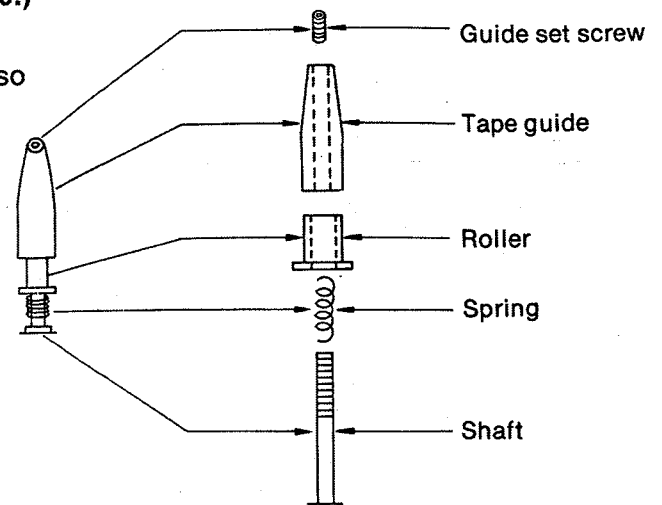

Fig. 20
#### Adjustment of Tape Guides (A) (Refer to figure 20.)
- (1) Loosen the guide set screw.
- (2) Begin tape movement, and turn tape guides so that tape is at center of guide (B).
- (3) After adjustment, tighten the guide screw.